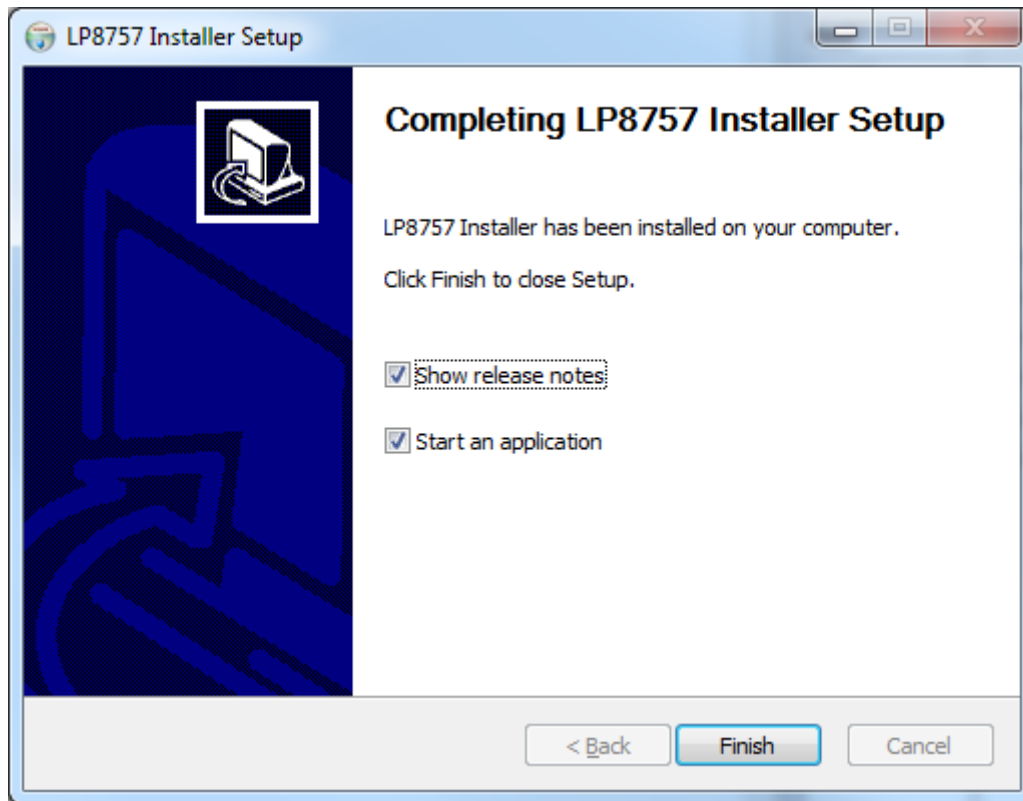

Figure 5. LP8757 Installation Complete
6. Installer prompts when installation is complete (see Figure 5).